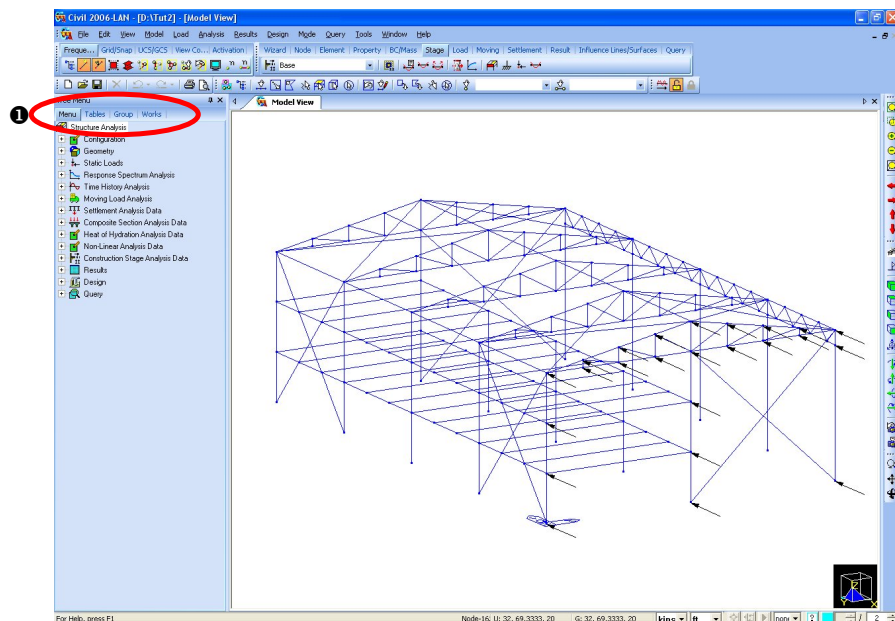

Figure 2.25 Selection of the Works tab of Tree Menu
1. Select the **Works** tab as shown in Fig.2.25–❶.